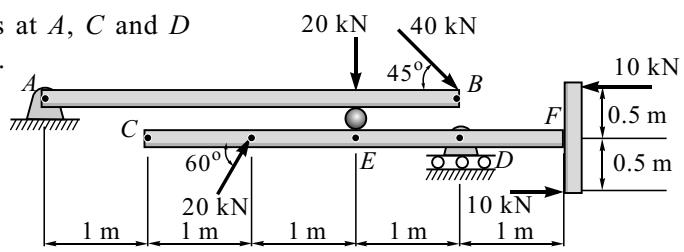

Fig. 3.E40
41. A beam weighs 4 kN/m is loaded and supported as shown in the Fig. 3.E41. Find the support reactions.